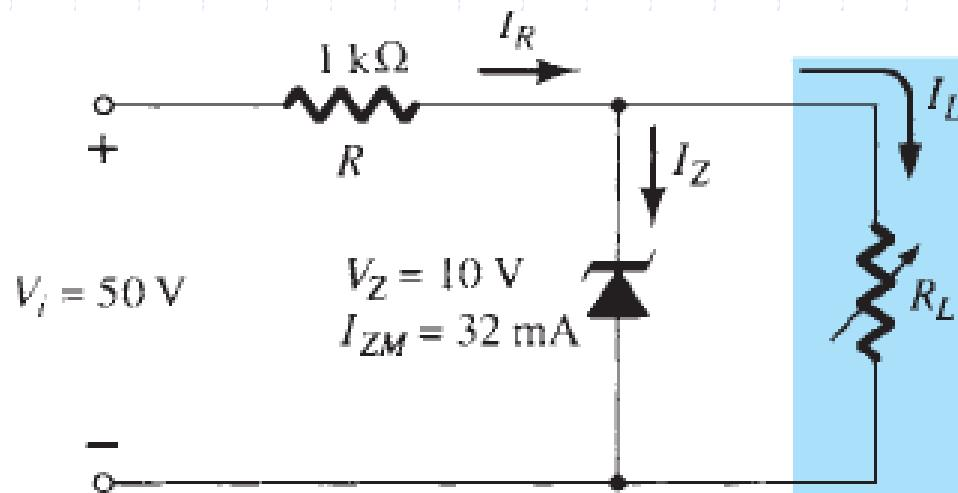

FIG. 2.119
- For the network of Fig. 2.119, determine the range of R_L and I_L that will result in V_{RL} being maintained at 10V.
V_L versus R_L and I_L for the regulator of Fig. 2.119.